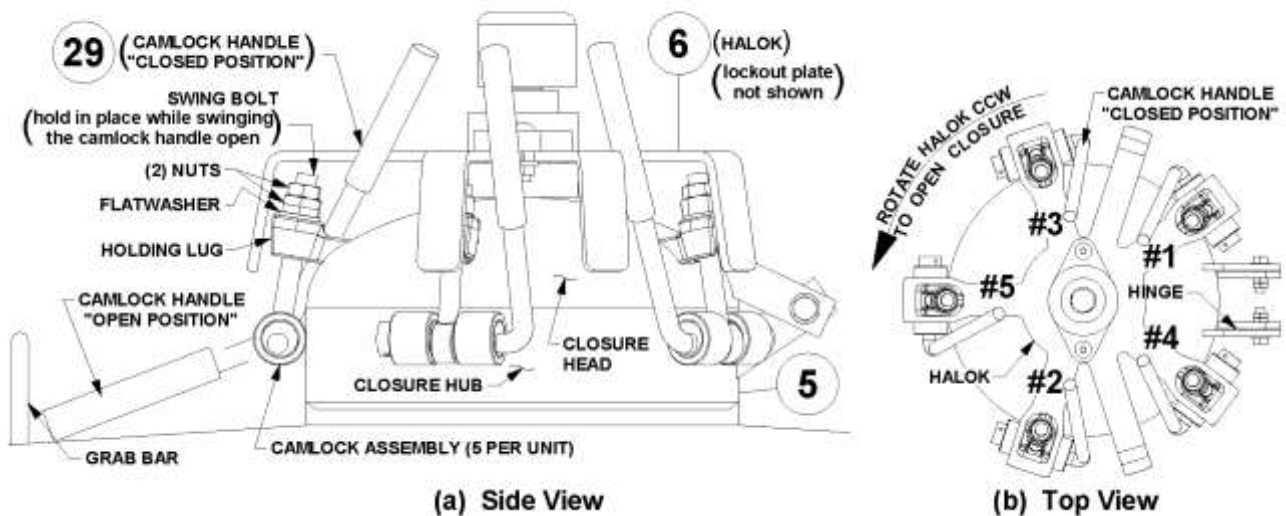

Figure 6.3.2 – Bulk Abrasive Blaster Closure Assembly
- 6.3.5. With all the camlock handles (#29) in the “open” position the Halok can be rotated counter-clockwise to allow access to the swing bolts (see Figure 6.3.2). Manually swing each swing bolt out over the holding lug.
6.3.7. Each time the closure assembly is opened all the camlock assemblies and hinge assemblies must be inspected for damage, including but not limited to, corrosion, cracks, and deformations. Make sure all the swing bolts, nuts, washers, cams, spring pins, and handles are in place (See Drawing 9.3(a)). Inspect the threads of each swing bolt and (2) nuts for corrosion or wear. Each camlock assembly and hinge must be tested for ease of operation. Any camlock, swing bolt, nut, or hinge that show signs of damage, corrosion, wear, or does not swing freely must be repaired or replaced *before* re-pressurizing the blast vessel. The camlock handles must be installed into the cam lugs as shown in Figure 6.3.2(b) so there is no interference with closure head handle or hinges and to insure proper operation of the closure Halok® (#6). The torque on the camlock assembly nuts must be properly adjusted. See Sections 8.4 and 8.5 for closure assembly maintenance instructions and adjustment procedures.